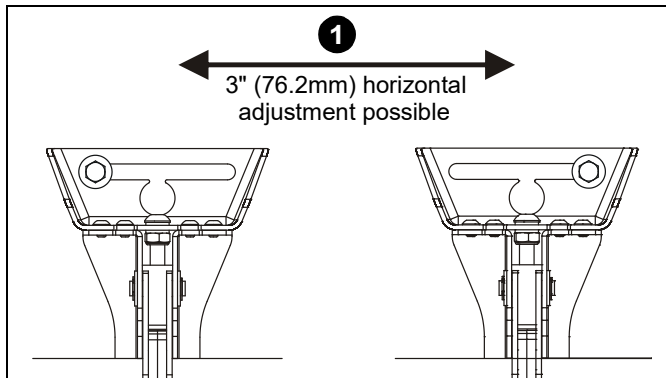

Figure 13
1. The mount wall brackets may be adjusted side-to-side at the point of attachment. (See Figure 13)